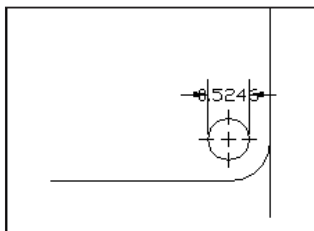

Figure 15-18: A narrow dimension using the Always keep text between ext lines option.
- ♦ **Always keep text between ext lines:** As it says, this option always keeps the text between the extension lines, even if they don't fit. Figure 15-18 shows a dimension using this option.